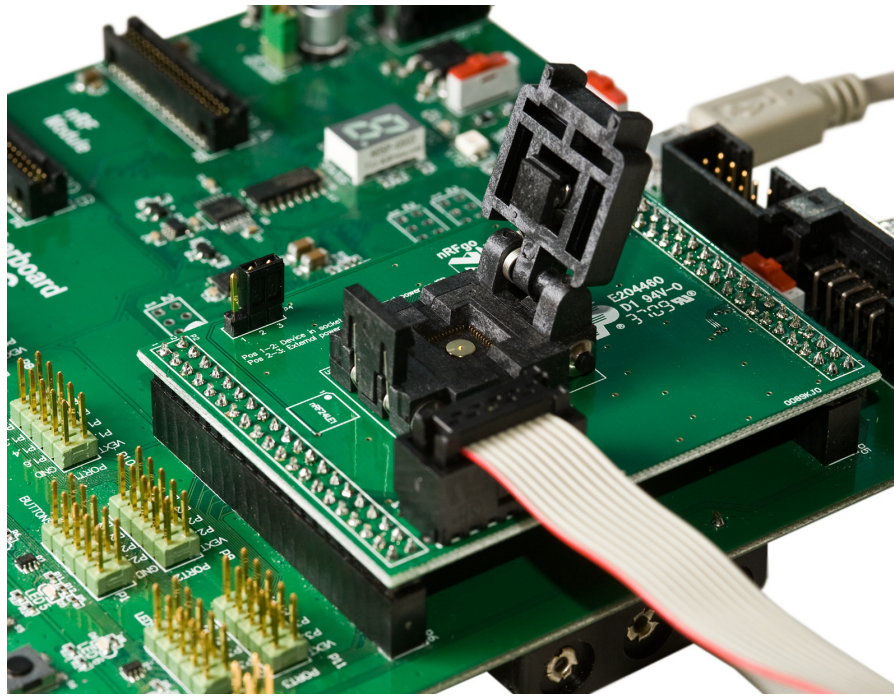

Figure 6. Jumper in position 2-3 on header P4
3. Place the device into the socket. Ensure that the device has the correct orientation according to the printed diagram beside the socket (on the adapter board). See Figure 6. on page 11.